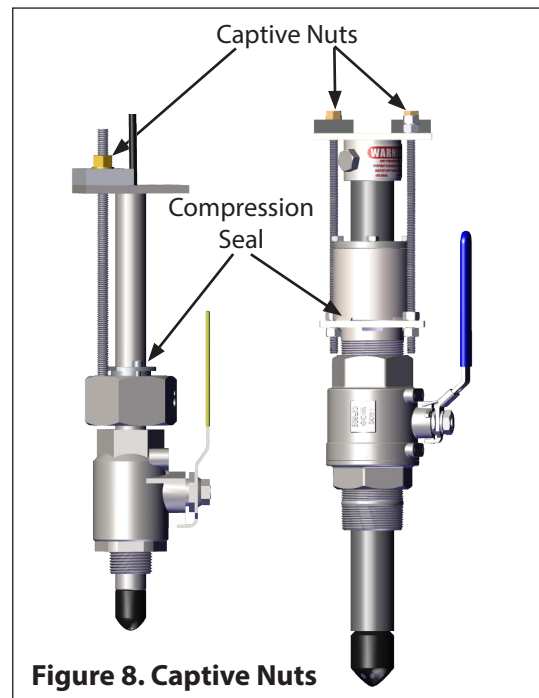
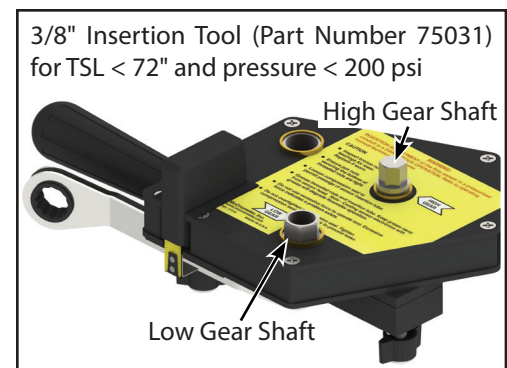

Figure 8. Captive Nuts
Figure 12. Sensor Insertion Tool
3. Insert the sensor into the pipe by simultaneously rotating clockwise the two captive nuts on the top plate for the 2" sensor, and the single captive nut on the 1" sensor. (Figure 8) For the two captive nuts on the 2" sensor use the two ratchet wrenches provided. It is recommended that the sensor insertion tool (p/n 75031) be used to rotate the captive nuts on the 2" sensor to ensure the top plate compresses evenly. See section 3.8 and Figure 12.
McCrometer recommends using a sensor insertion tool (Figure 12) (P/N 75031) to help with inserting the sensor and to avoid any damage to the sensor. Place the profiling insertion tool over the captive nuts and lock it into place with spring locks located on the bottom of the tool. Using the provided wrench rotate the high gear shaft clockwise until the bottom of the sensor reaches the far wall of the pipe.